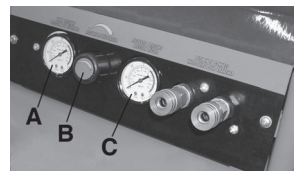

FIGURE 6
REGULATOR (B) FIG.6. The air pressure coming from the air tank is controlled by the regulator. Turn the regulator knob clockwise to increase pressure and counterclockwise to decrease pressure. To avoid minor readjustment after making a change in the pressure setting, always approach the desired pressure from a lower pressure. When reducing from a higher to a lower setting, first reduce the pressure less than desired, then bring it up to the desired pressure. Depending on the air requirements of each particular accessory, the outlet regulated air pressure may have to be adjusted while operating the accessory.
OUTLET PRESSURE GAUGE (C) FIG.6. The outlet pressure gauge indicates the air pressure available at the outlet side of the regulator. The pressure is controlled by the regulator and is always less than or equal to the tank pressure.
TANK PRESSURE GAUGE (A) FIG. 6. The tank pressure gauge indicates the reserve air pressure in the tank.